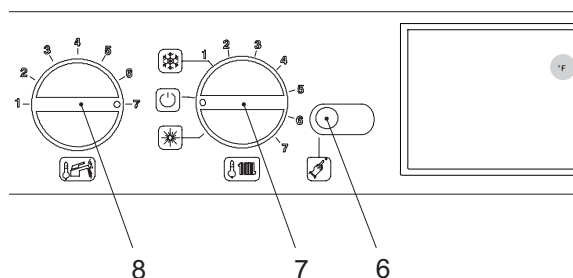

Figure 5.4
- position 7 for °F unit (figure 5.4)